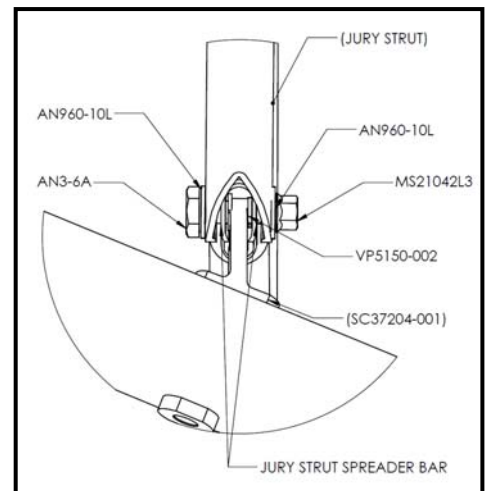

FIGURE 7 – Hardware Installation
17. Loosen hardware attaching jury strut to upper fittings and disconnect jury struts from lower fittings (see Figure 7).
27. Assemble bolt, washers, I-glide clip bearing, jury strut, spreader bar, and nut to jury strut lower attach fitting (see Figure 7).